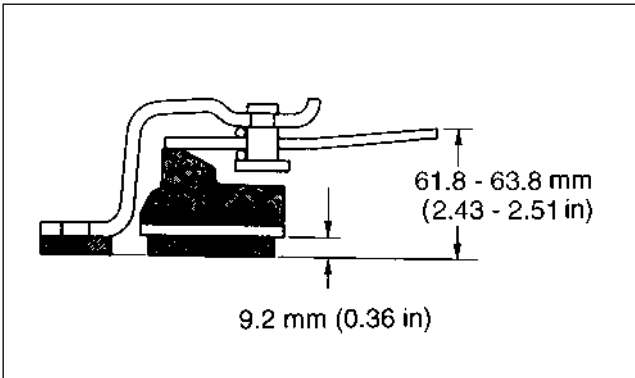

Figure 14. Height of diaphragm spring.
- Height of the diaphragm spring fingers (figure 14). Position an 9.2 mm (0.36 in) thick plate under the pressure plate. Compress the diaphragm spring until the spring touches the table. Measure the height of the diaphragm spring fingers. They must be 61.8–63.8 mm (2.43–2.51 in) high.